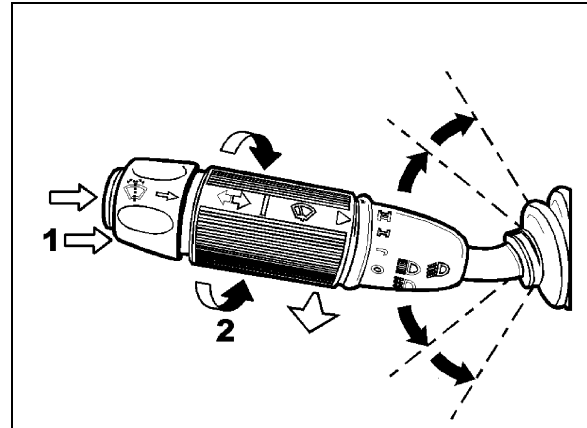

FIGURE 34: MULTIFUNCTION LEVER 23133
Turn the multifunction lever forward to activate windshield wipers (item 2, Figure 34). The first position operates the wipers at low speed and the second position operates the wipers at high
The windshield washer pumps are electrically operated and are controlled by a washer control ring on the multifunction lever (item 1, Figure 34).